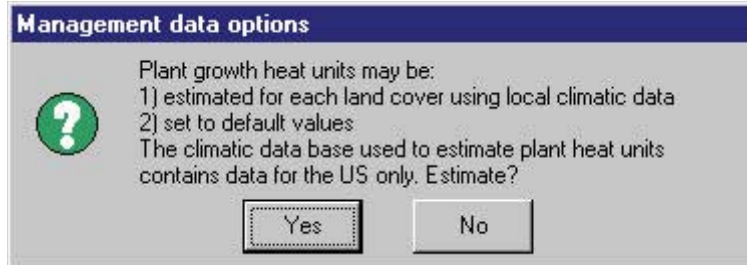

Figure 8.8
- e. When writing of the *.mgt* (management input) database begins, a prompt box appears with two options for defining plant growth heat units (Figure 8.8):